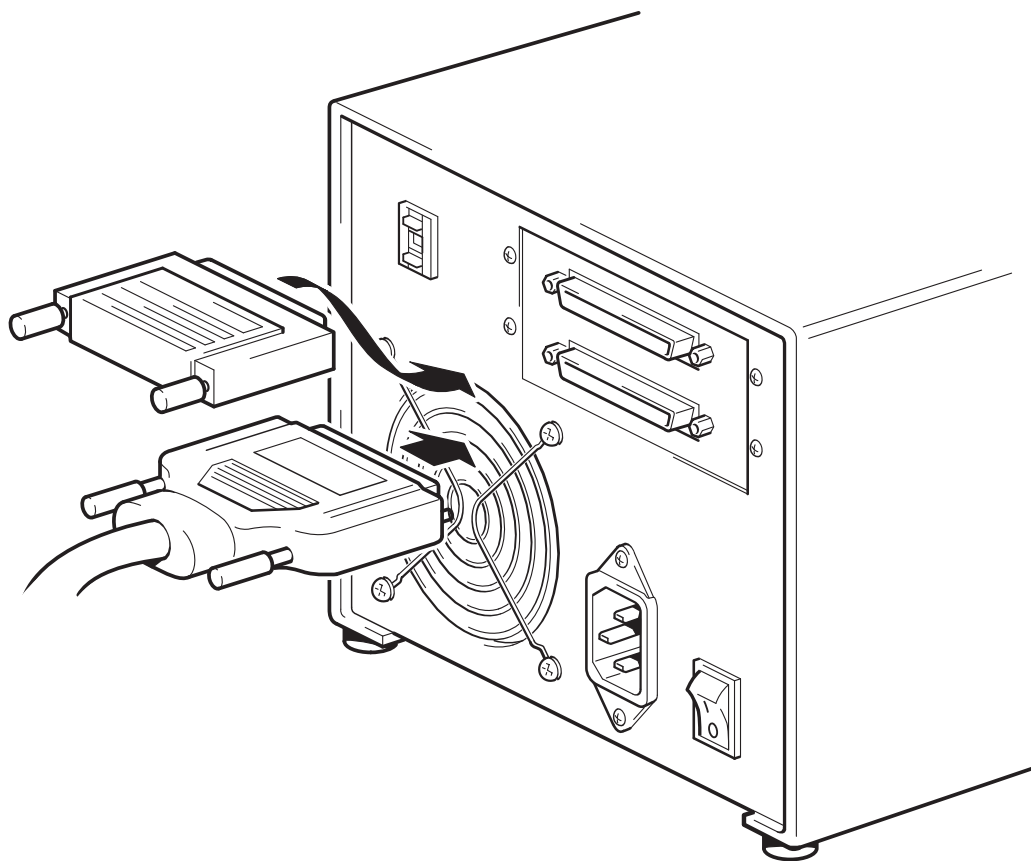

Figure 5: connecting the SCSI cable
- 4 Attach the HD connection on the SCSI cable to one of the SCSI connectors on the rear panel of the tape drive and secure it by tightening the screws. (See Figure 5.)